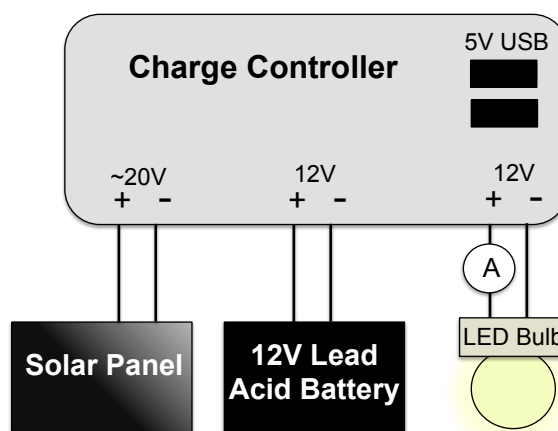

Figure 2: A schematic of the Solar Microgrid.
1. Sketch the schematic shown in figure 2 in your lab notebook.
6. Using the 10A socket with the minigrabber cables, connect the handheld DMM in series with the LED bulb, as shown in Figure 2. Turn on the LED bulb, and you should see a value for the current on the multimeter.